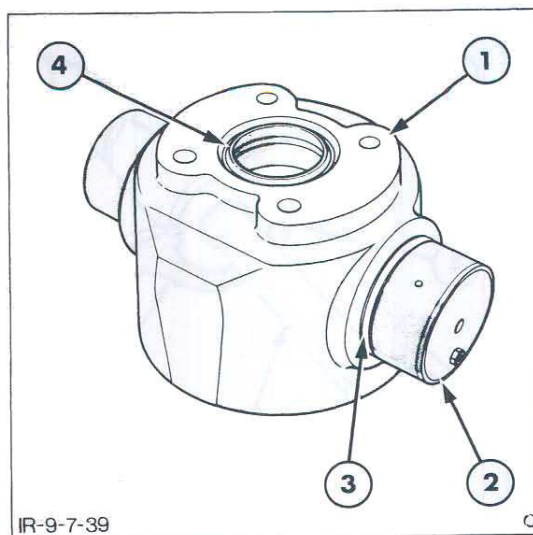

Figure 39
9. Remove the wiper seal, Figure 39.